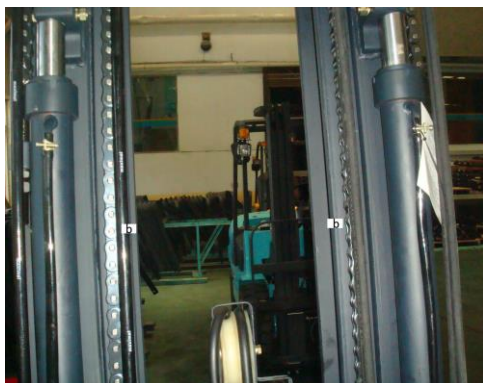

Fig. 8-1
(1) Drop the fork to the ground, and adjust the lift chain, to ensure that the distance between the lower roller center of fork carriage and the lower edge of inner mast is 15-20mm.
(2) Tip back the mast and adjust the tensioning force of lift chain, for the tensioning degrees of lift chain at places b to be equivalent (Fig 8-1).